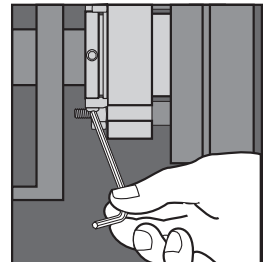

Figure 9
- 2.10 **Remove the setting devices** from the drive collar by loosening the cap screws. See Figure 9. Save the setting devices and fasteners for future use when the pump impeller is reset or the seal is removed for repairs.